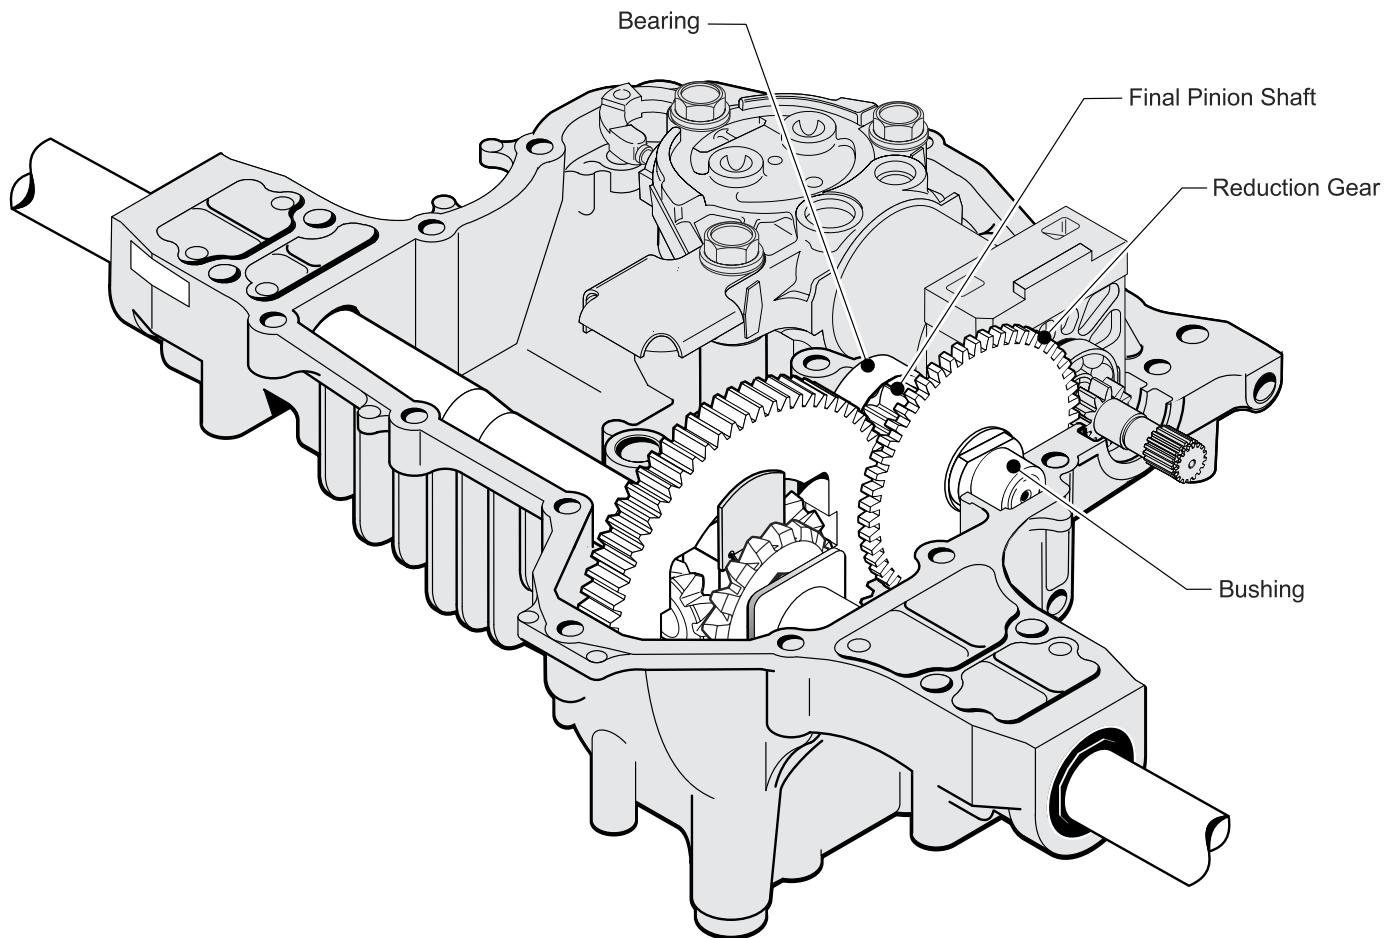

Fig. 43, Final Pinion Shaft Assembly
3. Install Final Pinion Shaft Assembly into Upper Case. (Fig. 43)
◆ Activate the Bypass Linkage so that "C" Arm (Fig. 43) retracts, providing additional clearance for the positioning of the Lower Case onto the Upper case.